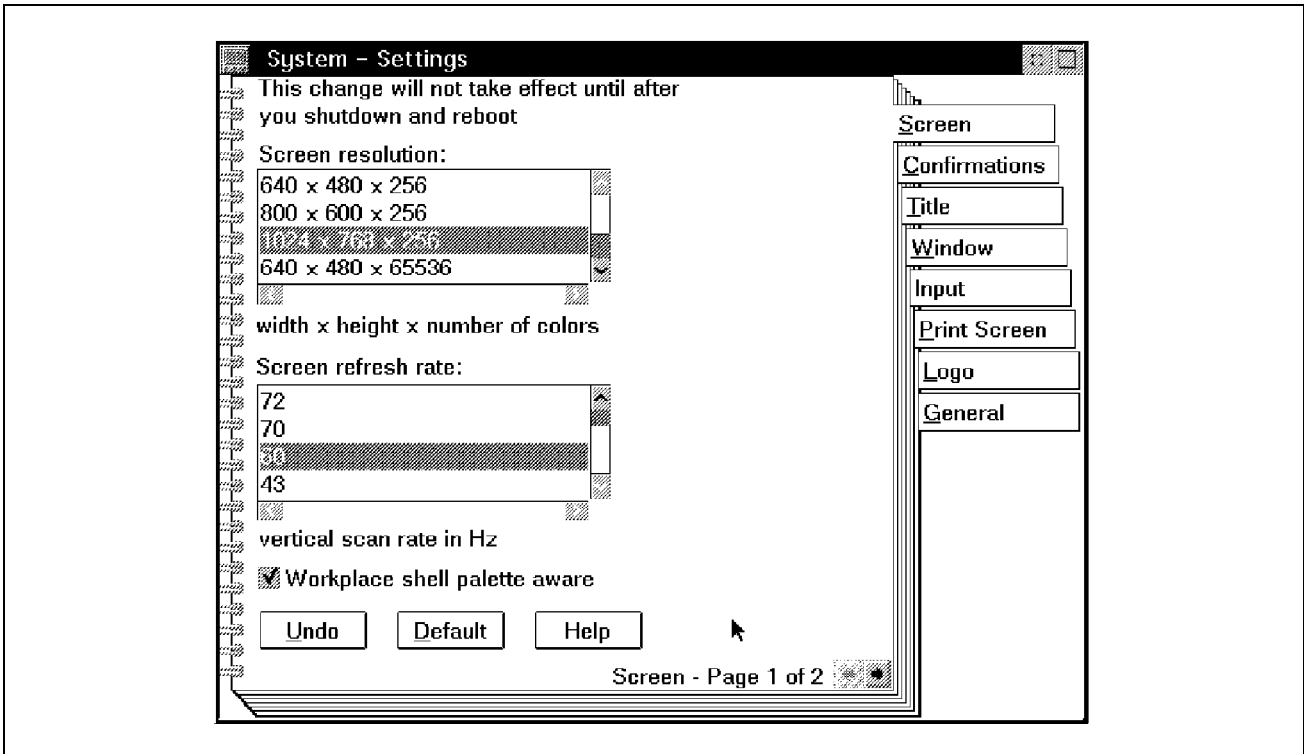

Figure 14. System Setup: Changing Resolution and Hertz Rate
4. You are presented with the System Settings notebook as shown in Figure 14 on page 55. The first tab of the System Setting notebook is the *Screen* tab.
If you change the screen resolution, the resolution used for WIN-OS/2 is also changed automatically. This only occurs if the resolution is changed via the System icon in the System Setup folder as shown in Figure 14 on page 55. If the Presentation Manager driver is changed manually (which is not recommended), the WIN-OS/2 display driver is not updated. If you experience problems in the WIN-OS/2 environment after doing a manual display driver change, you will need to manually update the WIN-OS/2 display driver as well. This is done by changing the applicable statements in the SYSTEM.INI file as well as updating the WIN-OS/2 drivers on the system.